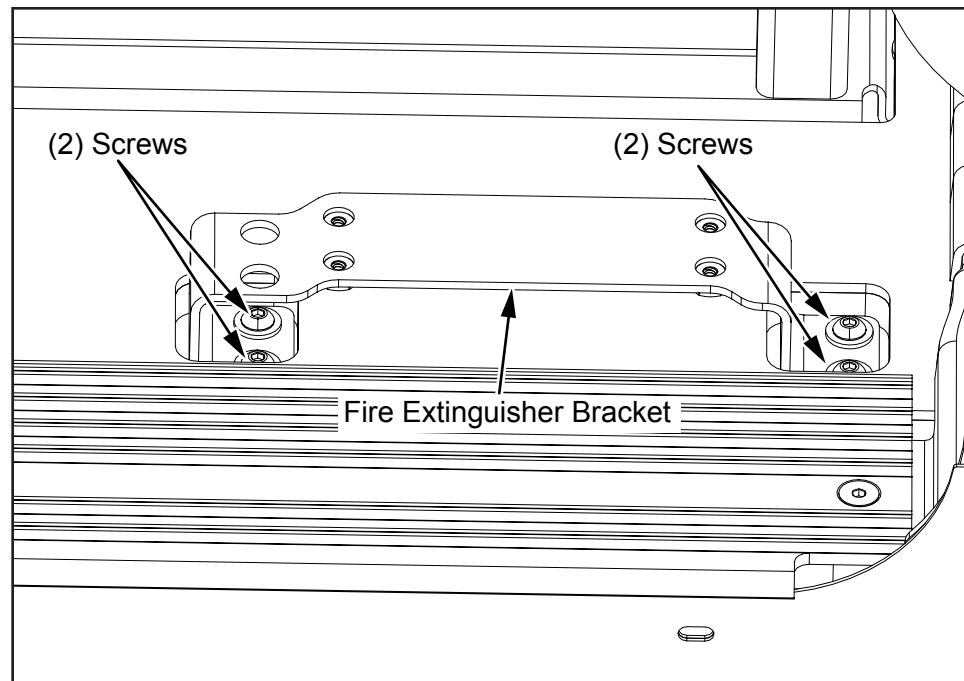

Figure 2
3. Remove (4) 1/4" screws and the fire extinguisher bracket and set aside for reinstallation (see Figure 2).